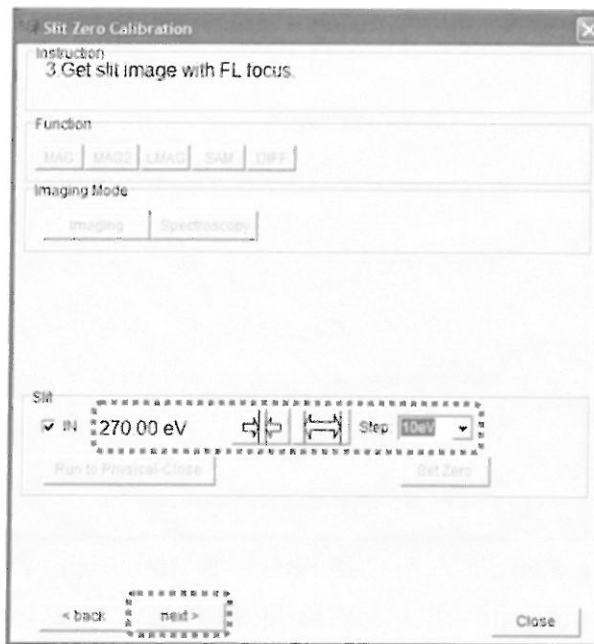

Fig. 5.58 Slit Zero Calibration - 3. Get slit image with FL focus
3. Follow "Instruction – 3. Get slit image with FL focus", move the spectrum position with the FOCUS knob (R1-⑧) and adjust so that the gap in the slit is visible (Fig. 5.58). After the adjustment is complete, click the **next** button to proceed.